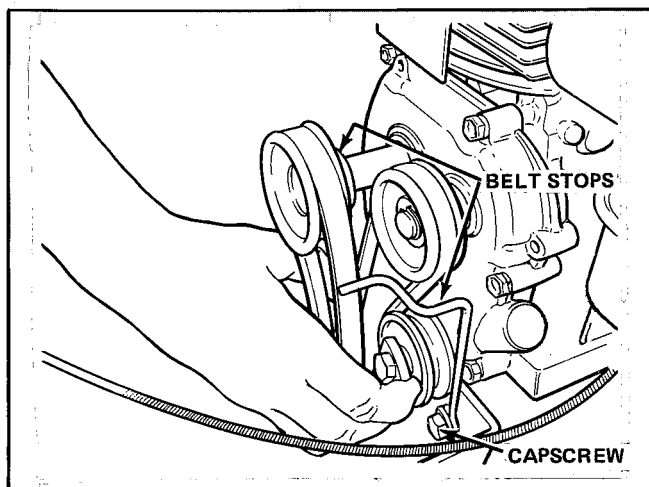

Figure 17. Belt Stops
1. Push both idler pulleys together with one hand to seat belts (see figure 17).
2. Measure gap between belt stops and forward and reverse belts (see figure 17). The clearance should be 1/8 inch (3 mm). If not, loosen capscrew, adjust belt stop for proper clearance, and retighten capscrew while holding belt stop from moving. Repeat check and adjustment as necessary, and be sure to check both belt stops.